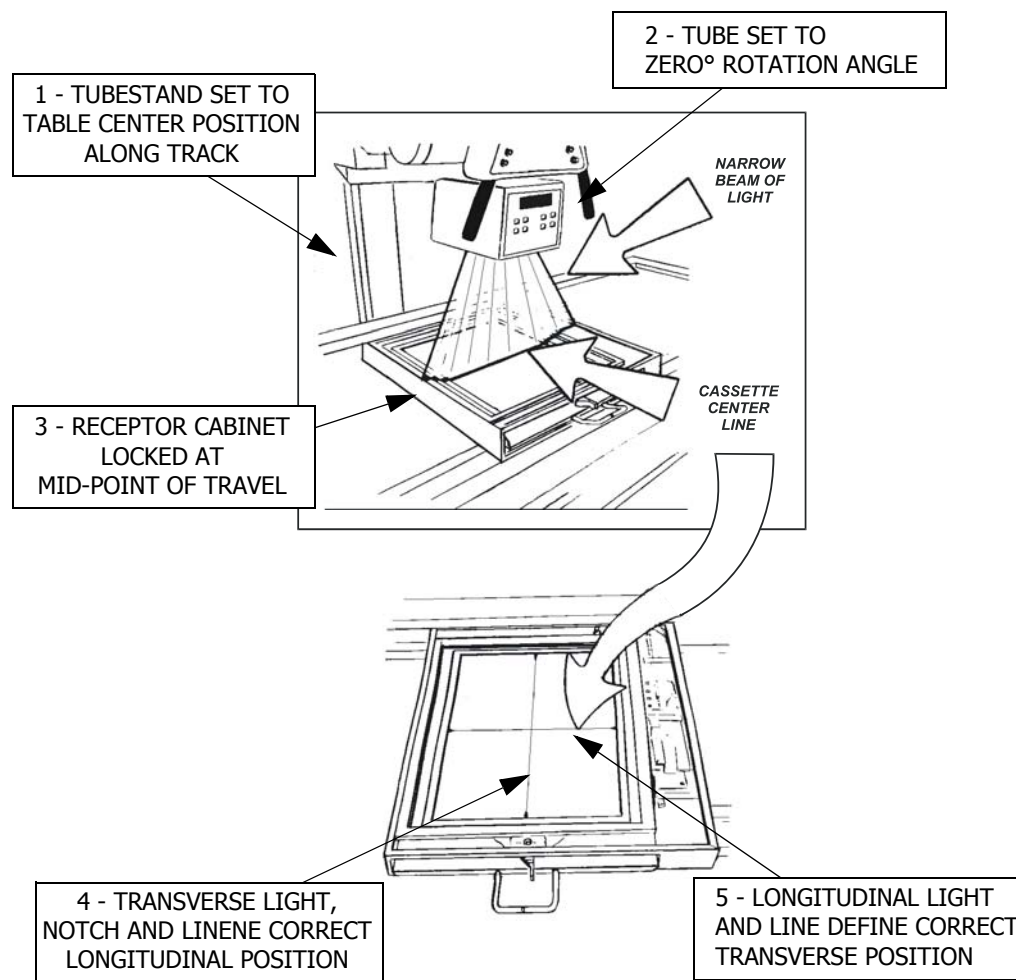

Figure 3-7. Image Receptor/Collimator Define Proper Table Alignment
6. Load a 14" x 17" film cassette into the cassette tray and extend the cassette tray handle so it protrudes slightly beyond the front edge of the tabletop, then illuminate the collimator light. See Figure 3-7.